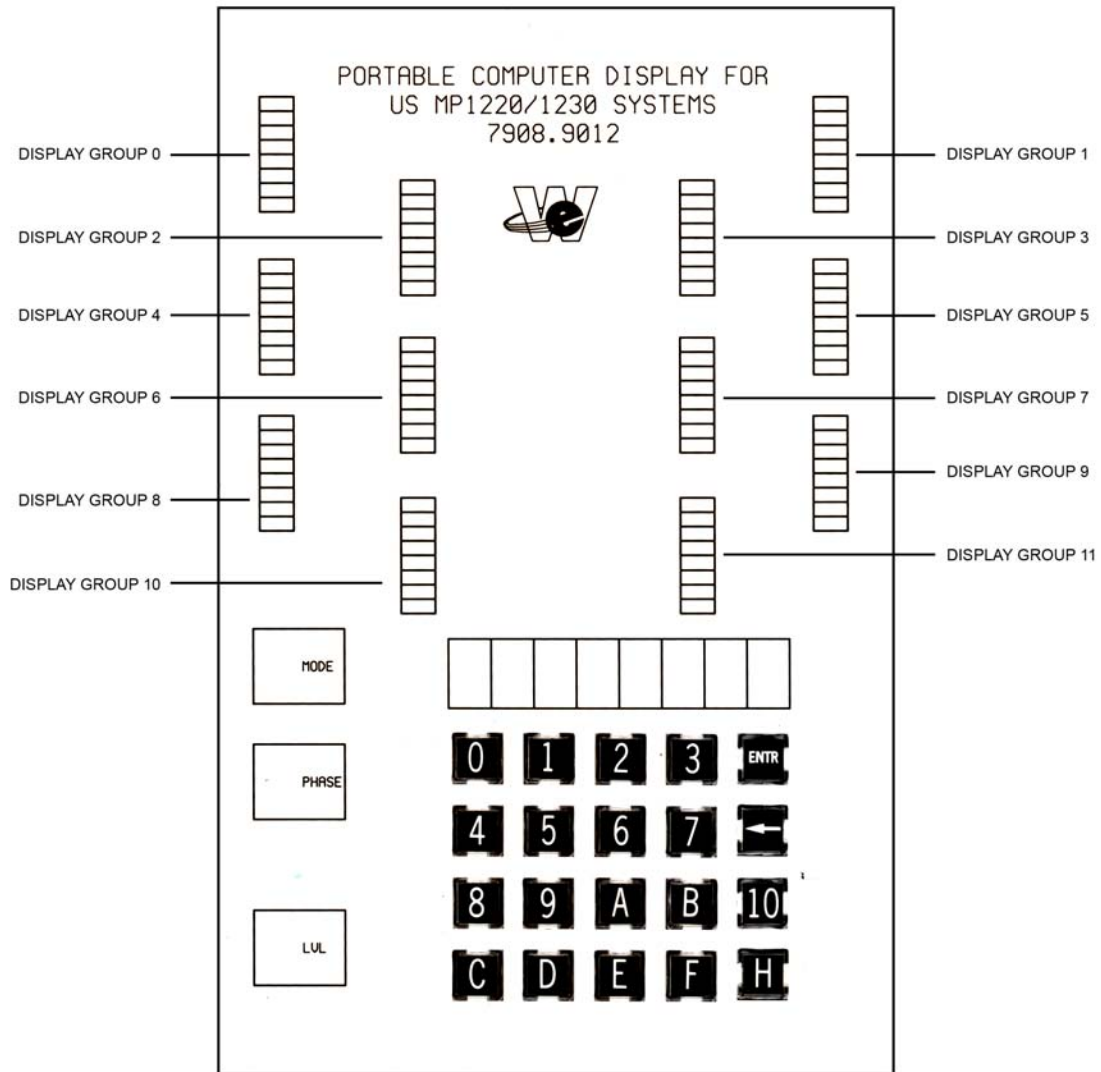

FIGURE 1-1
- (1) Status Indicators
- (2) LED Displays
- (3) Keyboard and Display
**Status Indicators** The status indicators are shown in Figure 1-1. These are labeled MODE, PHASE, LEVEL (LVL), and FAULT.